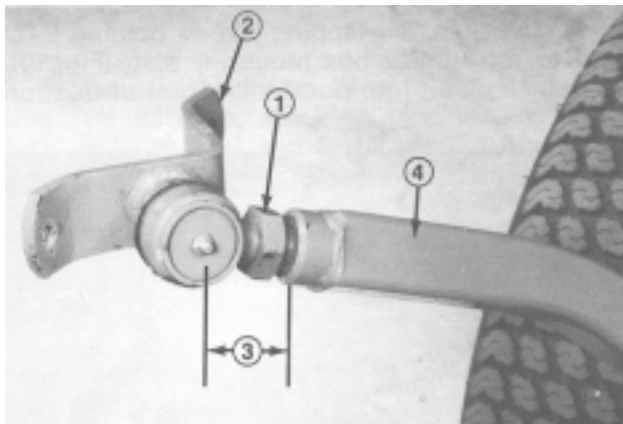
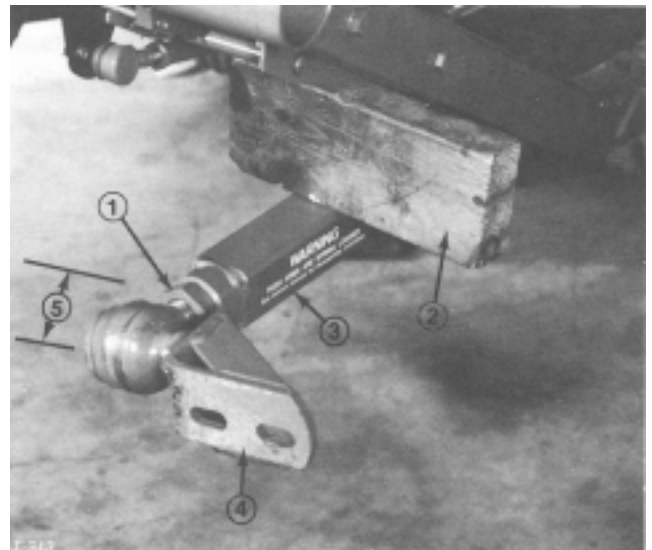

Figure 9
Figure 10
2. Screw the ball joint into the right-hand push arm until the center of the ball joint is 2-3/8 inches (60 mm) away from the front of the push arm (Fig. 9). Do not tighten the jam nut.
3. Have another person push down on the left push arm. Insert a 2 x 4 in. (51 x 102 mm) block of wood between the frame and the top of the push arm (Fig. 9). Screw the ball joint into the left-hand push arm until the center of the ball joint is 2-3/8 inches (60 mm) away from the front of the push arm (Fig. 10). Do not tighten the jam nut.